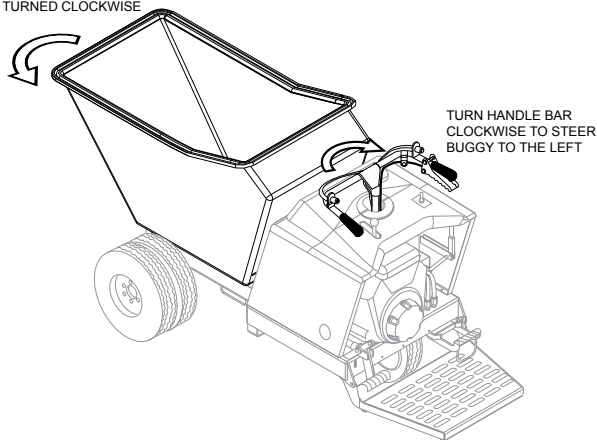

Figure 20. Steering the Buggy
1. To turn left when traveling in the forward direction, turn the handle bar clockwise (Figure 20).